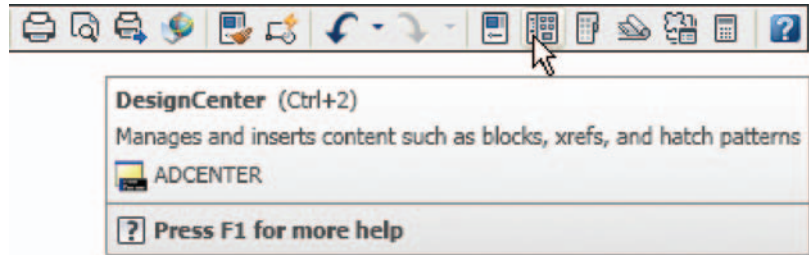
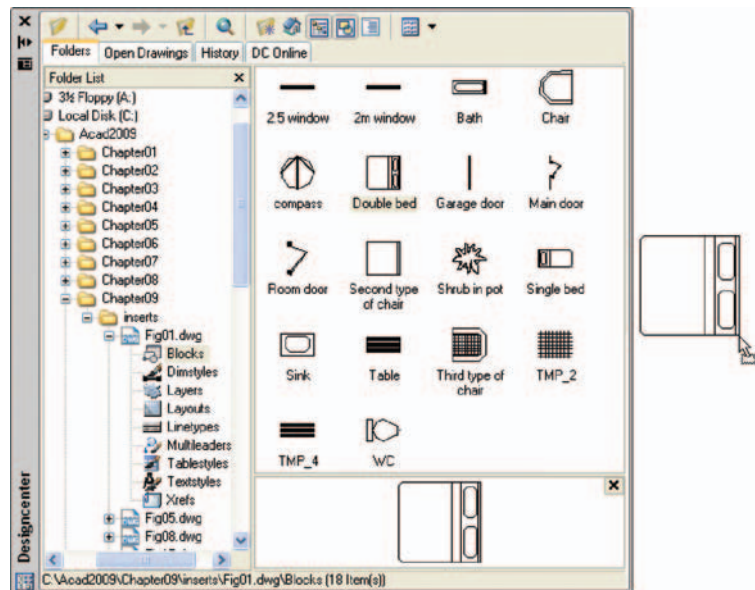

Fig. 9.9 Selecting DesignCenter from the Standard Annotation toolbar
Fig. 9.10 The DesignCenter with the double bed block dragged on screen
2. *Left-click* **DesignCenter** in the **Tools/Palettes** panel (Fig. 9.9) or press the **Ctrl+2** keys. The **DesignCenter** palette appears on screen (Fig. 9.10).